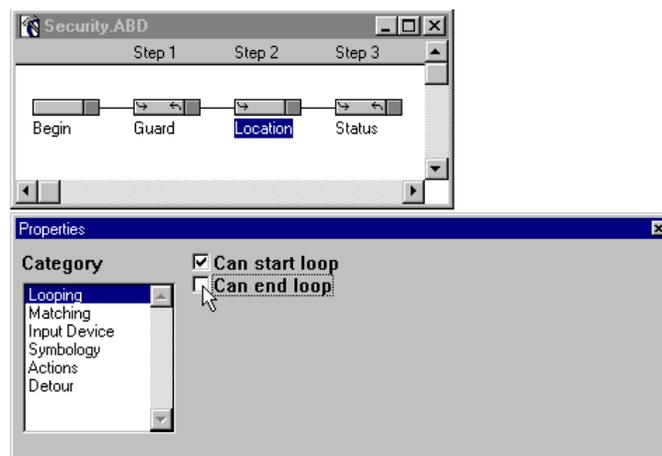

Figure 3-33 "Location" Handler - Looping
29. Click the **Can end loop** check box to deselect the option (Figure 3-33). (A checkmark should not appear in the box.)